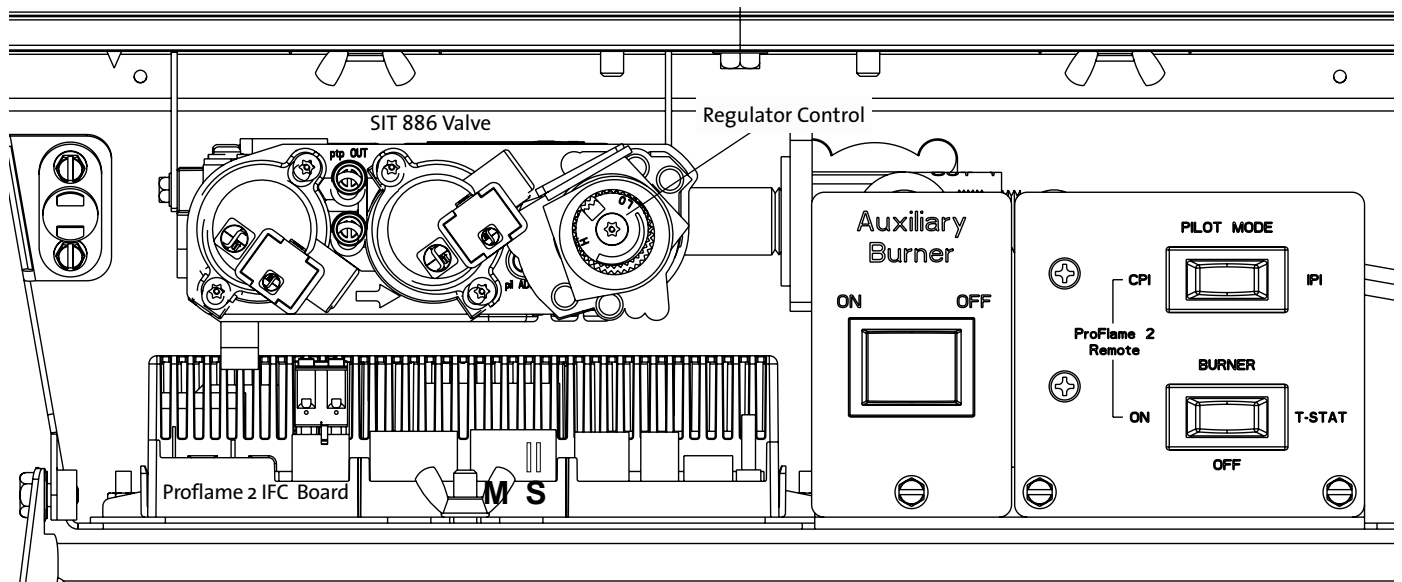

Figure 16.1. GF 500 DV IPI Controls Compartment.
1. Set the Burner switch to OFF. See fig. 16.1.
1. Press the Controls Access Door to release its magnetic catch and swing the panel down. Switch the Burner to OFF. See fig. 16.1, pg. 29.